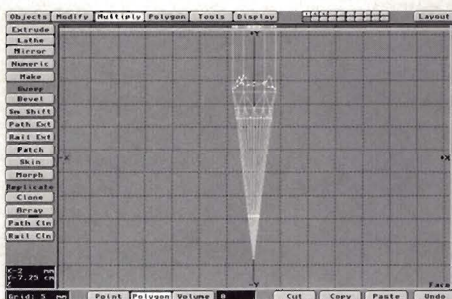

Figure 16
Click (Enter) to make the disc. Now hit (4) to go to layer 4, then (Alt 5) to put layer 5 in the background layer. Select (S Drill) from the Tools Menu. Select stencil and OK (Enter). You've just made your pencil lead. Press (4), select the lead part of the tip and name (q) the surfaces "Lead-Smooth." Hit (Shift + ") and name (q) the rest of the tip "Tip-Wood." Now just cut (x) the tip of the pencil to layer 1 and paste (v) it into place. Select the top polygon of the tip and the bottom polygon of the shaft. Using the Skin Tool, join the two together (Figure 16). Before you save the pencil, select the polygons that we used to skin the tip together and delete (z) them. Now simply cut (x) and paste (v) the band and eraser to layer 1. Finally, save the pencil as "Pencil."